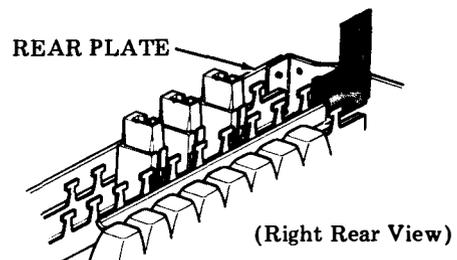

Fig. 23—Cable Removal
- (h) Remove rear plate (Fig. 23).
- (i) Slide cable to the right until it clears the circuit card. Remove through opening between channels (Fig. 23).